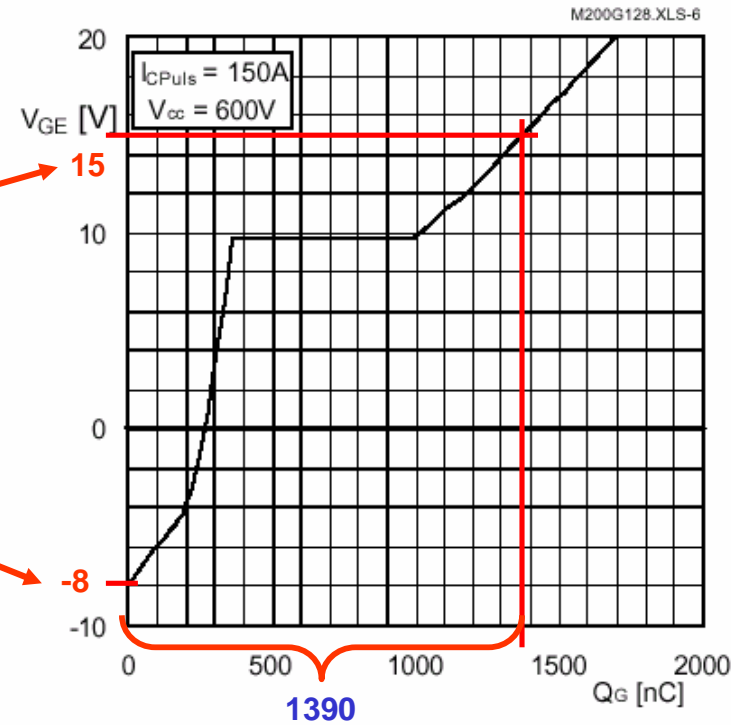

Fig. 6 Typ. gate charge characteristic
- q Gate charge (Q_G) can be determined from fig. 6 of the SEMITRANS data sheet